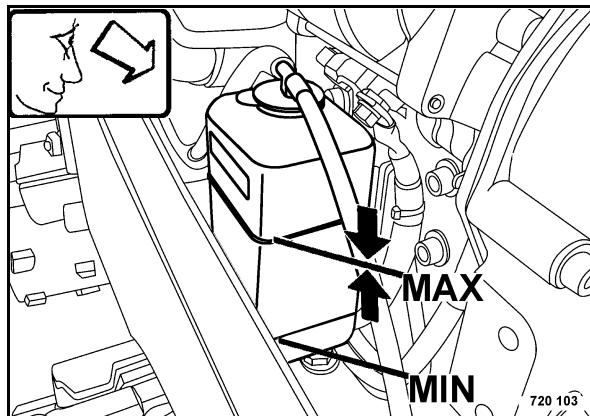

Fig. 93
- Check the coolant level (Fig. 93).